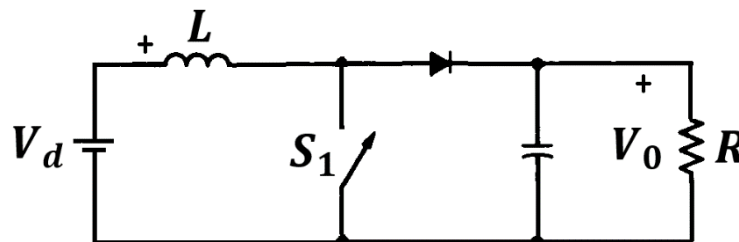

Fig. 2
The boost converter in **Fig. 2** is required to have an output voltage of 8V and supply a load current of 1A through the R . The switching frequency of the converter is 100 kHz. The input voltage varies from 2.7 to 4.2 V. A control circuit adjusts the duty ratio (D) to keep the output voltage constant.